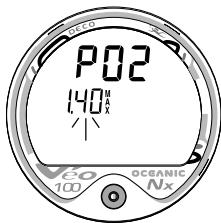

Fig. 24 - SET PO2 ALARM
- After having set and accepted the Time, the Set PO2 Alarm screen appears with the Set Point flashing (Fig. 24).